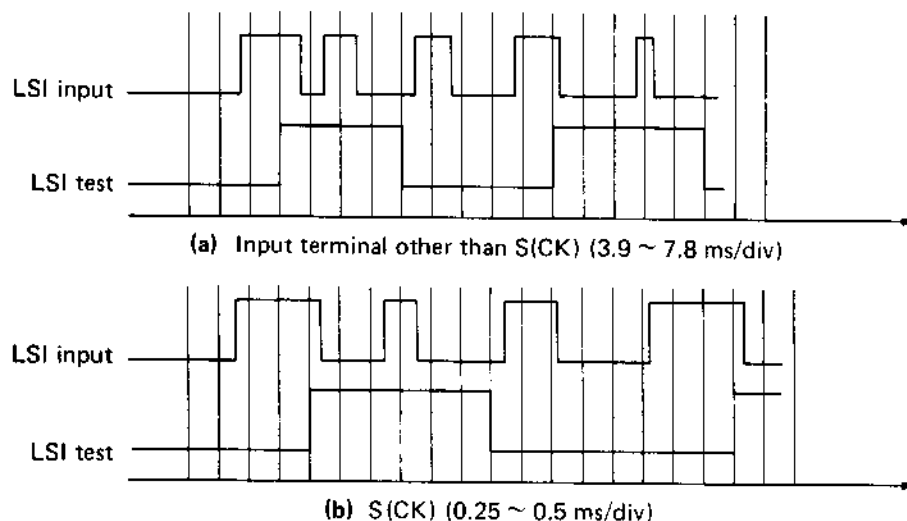

Fig. 3-17
Switch chatter compensation is employed for input terminals S (OPR), S (DN), S (MEM), S (R) and S (CK). Timing functions are shown in Fig. 3-17.